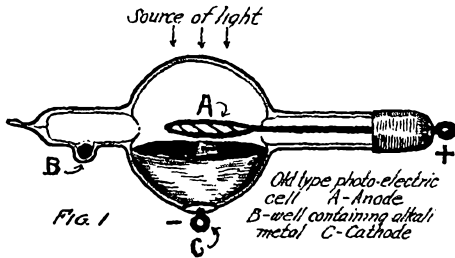

FIG. 1
One form of the cell is shown in Fig. 1. The glass bulb contains a platinum ring on an arm, as an anode (A), and one half of the bulb has been silvered, making a hemi-spherical mirror. The tube is highly exhausted on a mercury pump, and then a small quantity of a pure alkali metal (sodium, potassium, etc.) which has been included in a small well in the tube (B) is carefully distilled onto the silver mirror. This is accomplished by having a heating coil which heats all the glass to above the condensation temperature of the alkali, except that portion where the metal is to be deposited, which in this case is of course the silver mirror. That portion of the cell is kept cold by means of a water bath in order to hasten the condensation of the metal. The most sensitive cells are those in which the metal has been deposited on